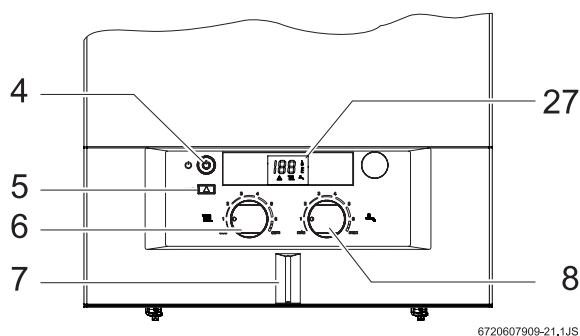

Fig. 31
NOTE: upon installation or after gas line work has been done, air in the gas line may cause a lockout error. Reset the unit (Fig. 31, pos. 5). The heater will reattempt ignition.
- ▶ press the ON/OFF  button. LED (fig. 31) goes orange. When the burner is working, the LCD display shows the symbol .